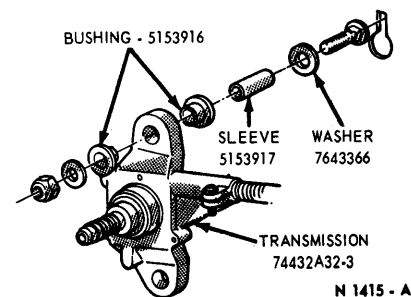

FIG. 34—Luggage Compartment Door Lock-Transmission Installation
6. Loosen the 2 nuts retaining the transmission to the luggage compartment door (Fig. 34) and slide the bolts out of the slots in the door inner panel.
1. Transfer the bolts, washers, sleeves, bushings, and nuts (Fig. 34) to the new transmission (also transfer the limit switch activator on the right transmission).